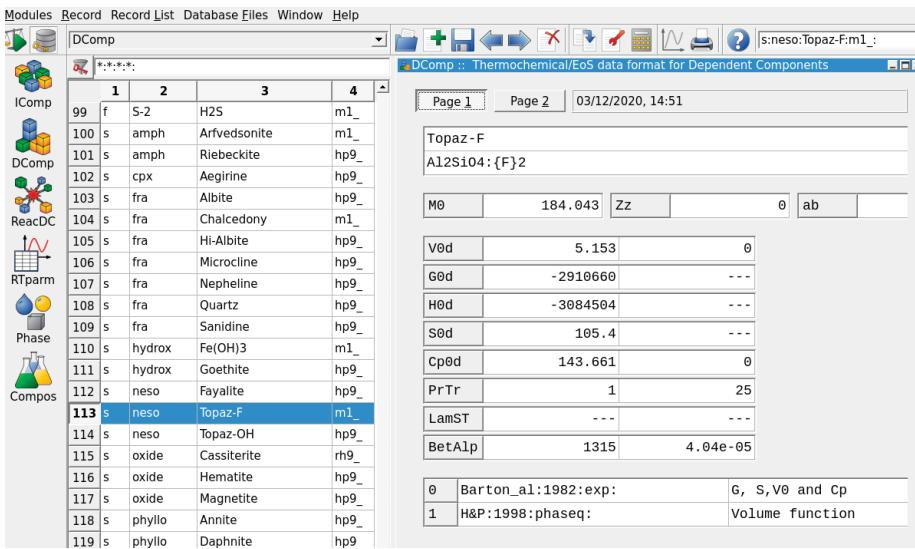

Figure 3.8: Thermodynamic database mode showing DComp records and input fields for Topaz-F.
- Switch to the Thermodynamic Database Mode and select in Panel 2 (left side) the option DComp for adding a new mineral phase. Select the records Topaz-OH or Topaz-F and check the inputs. Figure 3.8 shows the Page 1 input tab for Topaz-F. I already added this mineral for you but will briefly explain how to create such a record. Note the heat capacity function (Cp) can be set in the Page 2 tab of this window.
- To inspect the Topaz-F record you can select it and click on the red wrench next to the calculator on the top Panel 1. There you can explore different model options and come back to the main DComp window (Fig. 3.8).